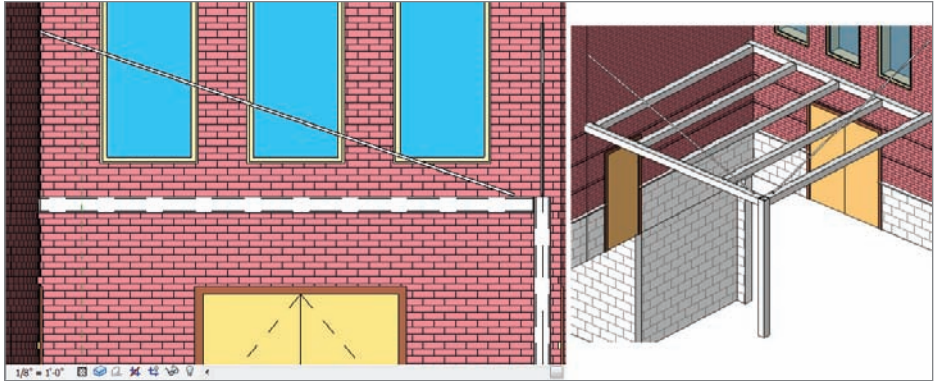

FIGURE 8.47 Adding the second rod to the canopy
14. Draw a diagonal rod similar to the one in Figure 8.47.